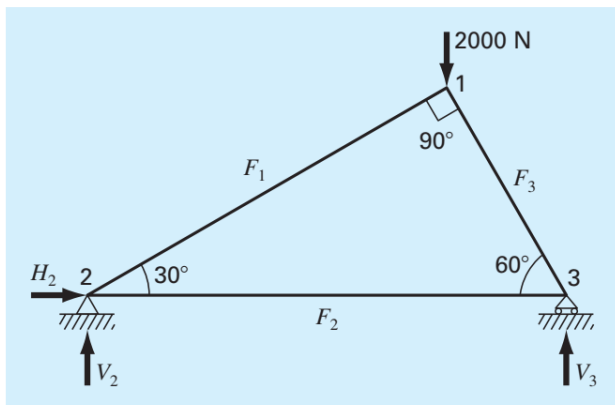

FIGURE P8.10
8.10 An important problem in structural engineering is that of finding the forces in a statically determinate truss (Fig. P8.10). This type of structure can be described as a system of coupled linear algebraic equations derived from force balances. The sum of the forces in both horizontal and